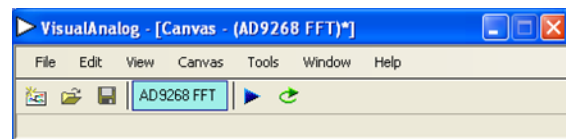
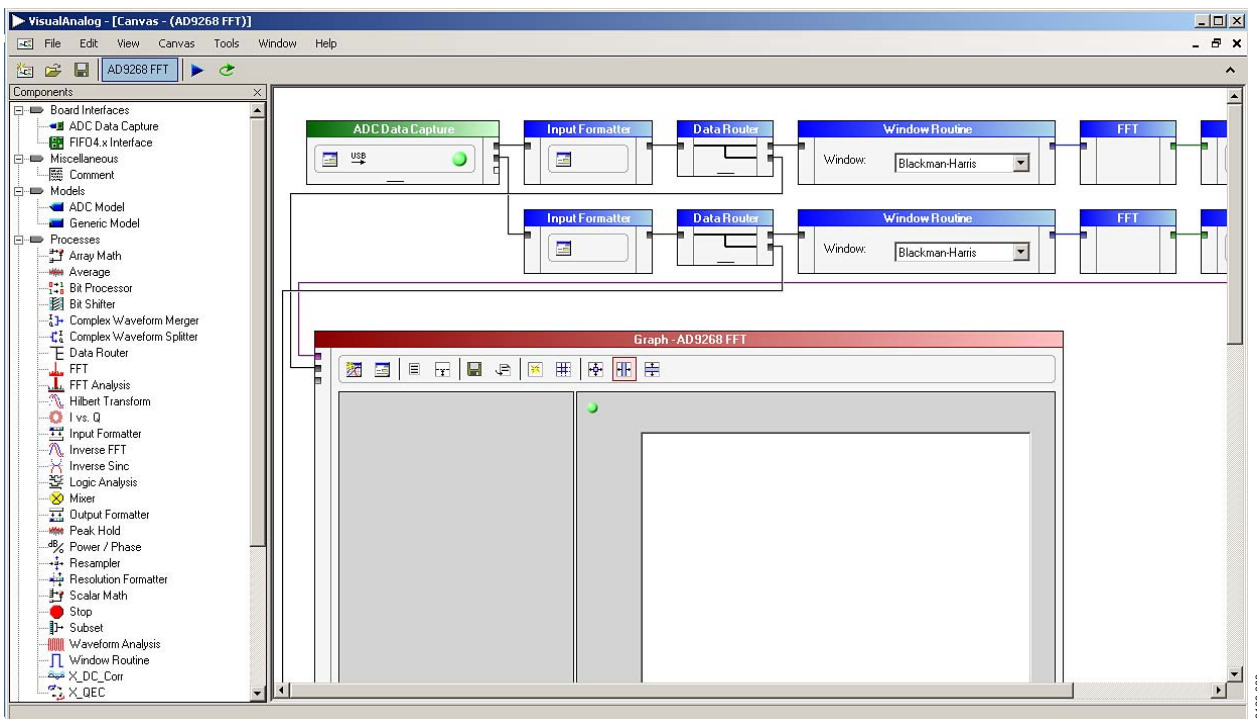

Figure 8. VisualAnalog Window Toolbar, Collapsed Display
Figure 9. VisualAnalog, Main Window
3. To change features to settings other than the default settings, click the **Expand Display** button, located on the bottom right corner of the window, to see what is shown in Figure 9. Detailed instructions for changing the features and capture settings can be found in the AN-905 Application Note, VisualAnalog Converter Evaluation Tool Version 1.0 User Manual. After the changes are made to the capture settings, click **Collapse Display** (see Figure 8).